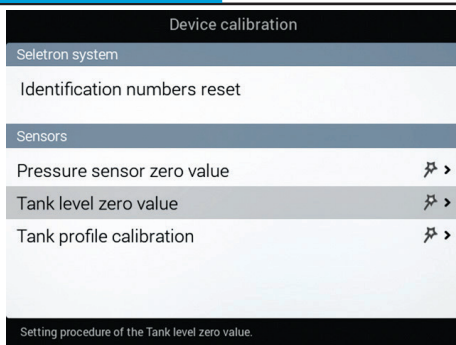

Fig. 121
- 1 Select the item **Tank level zero value** (Fig. 121) and press **OK**.